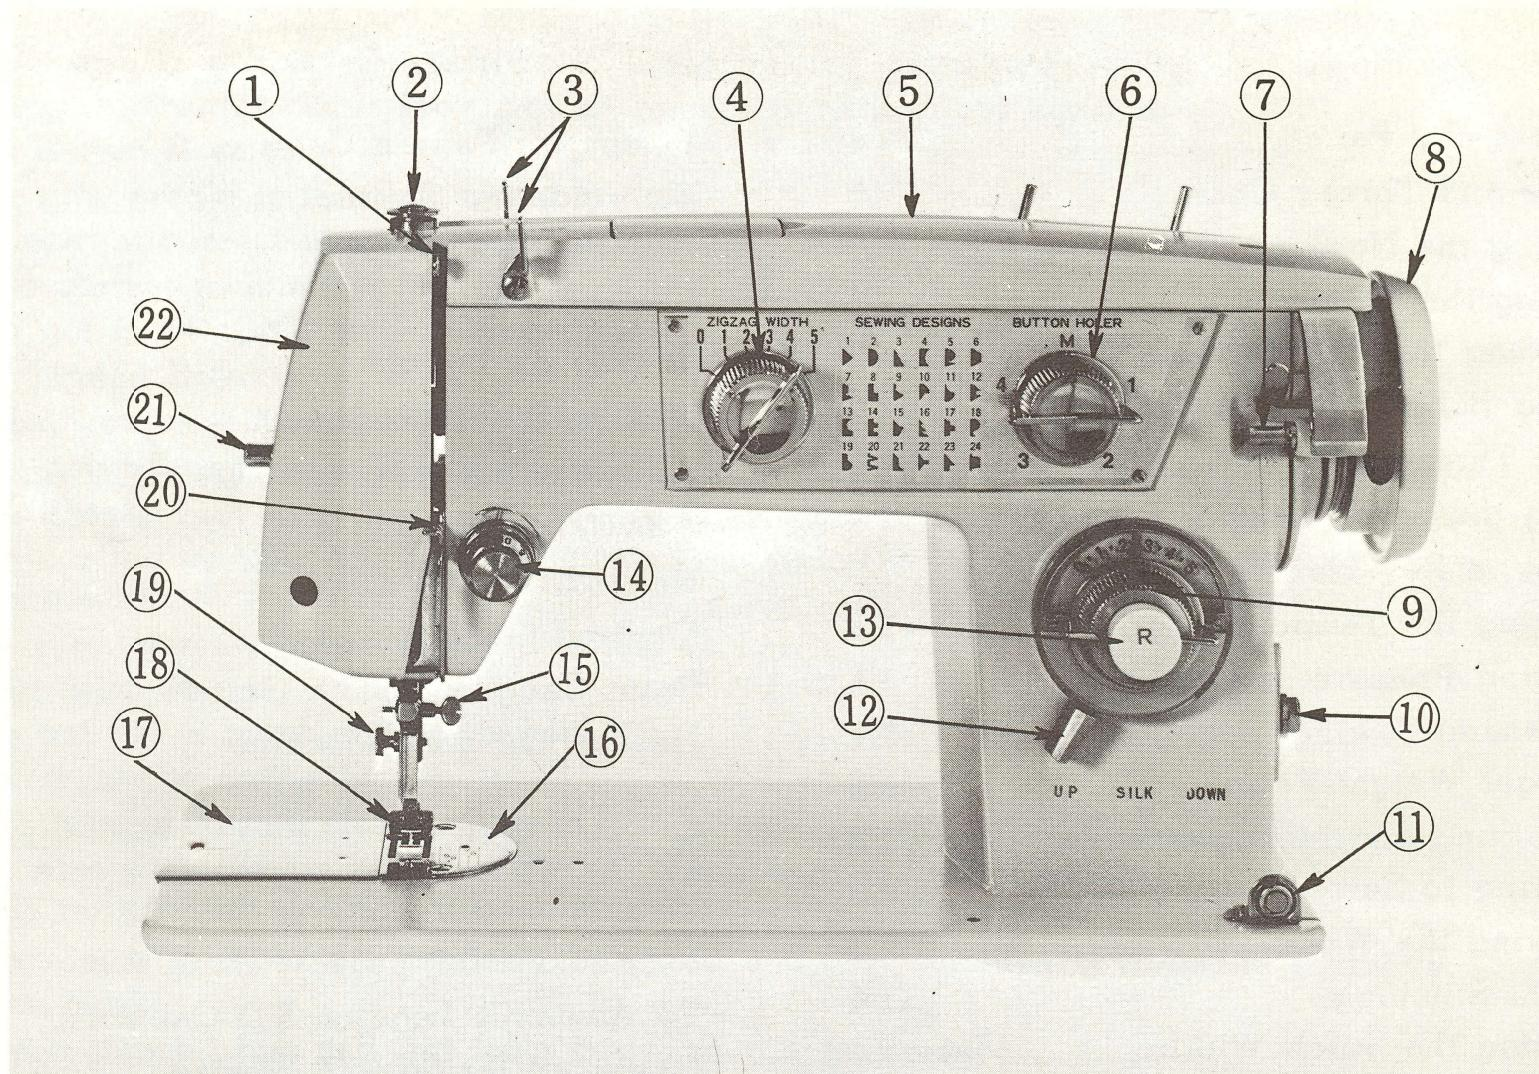
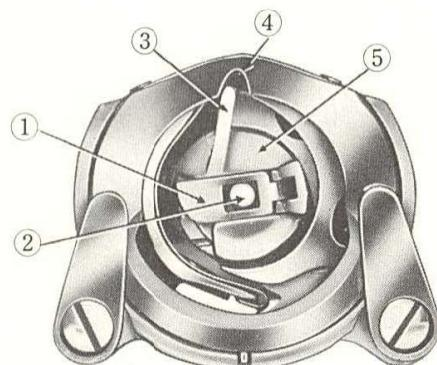

Fig. 1
Fig. 10
Open bobbin case cover plate left of the needle. (See ⑯, Fig. 1) See Fig. 10. Hold the bobbin case latch, ①, between the thumb and forefinger of the left hand, with at least three inches of thread running from the top of the bobbin case to the right. Insert and center the bobbin case on the stud of the shuttle hook ②. Be sure the bobbin case finger, ③, is opposite the shuttle race notch, ④. Press the bobbin case ⑤ into the shuttle as far as possible until latch catches on the center post of the shuttle. THEN release the bobbin case latch, ①. Press bobbin case again after latch has been released to make sure the bobbin case is locked securely in place. Close the cover plate.
The length of the stitch is regulated by the stitch length dial (⑨, Fig. 1). Near 0 is the shortest stitch and 5 is the longest, but the dial may be set at any spot between markings for a variety of lengths. Turn the dial to the right to lengthen and to the left to shorten the stitch. The number of the stitch length you choose should appear on indicator on the dial.
When you wish to sew backward to tie the threads at the beginning or end of a seam, press in button R, (⑬, Fig. 1) as far as it will go. The machine will sew backward as long as the button is held in.